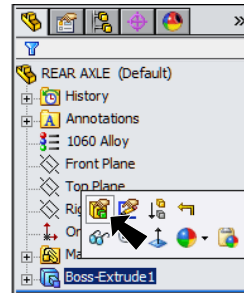

Fig. 8
Step 1. Click **Boss-Extrude1** in the Feature Manager and click **Edit Feature**  in the Context toolbar, **Fig. 8**.